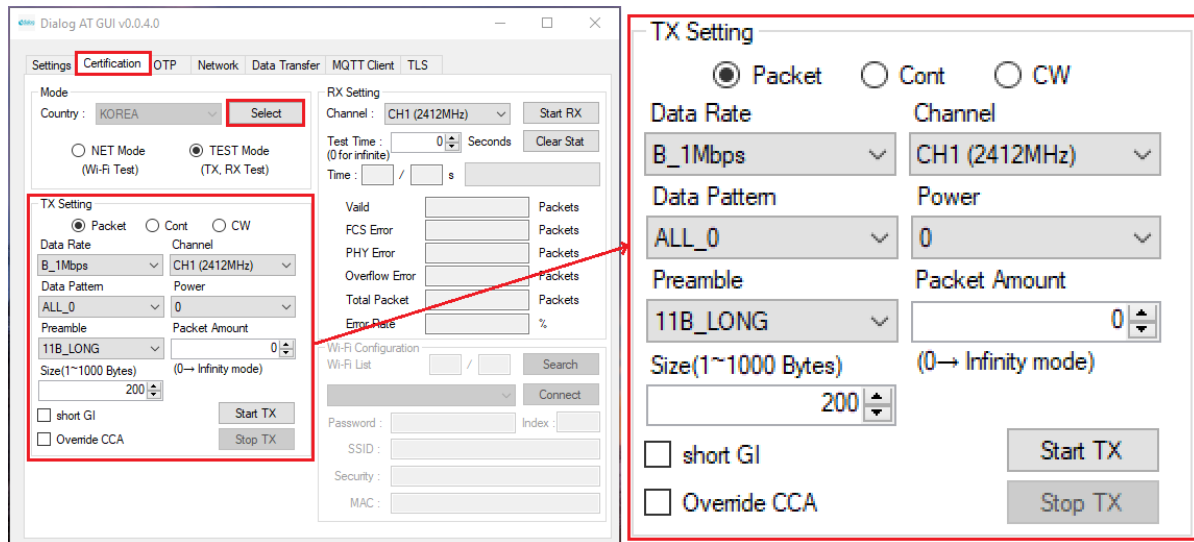

Figure 8: Tx Test Mode Configuration
1. Open the **Certification Mode** tab. See Figure 8.
2. Click the **Mode Select** button (Figure 8). A confirmation message is shown as in Figure 9. This is a normal state.